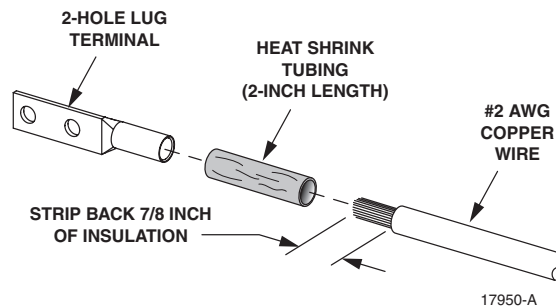

Figure 18. 2-Hole Lug Terminal Installation
2. Strip back 7/8 inches of insulation from one end of each wire as shown in Figure 18.